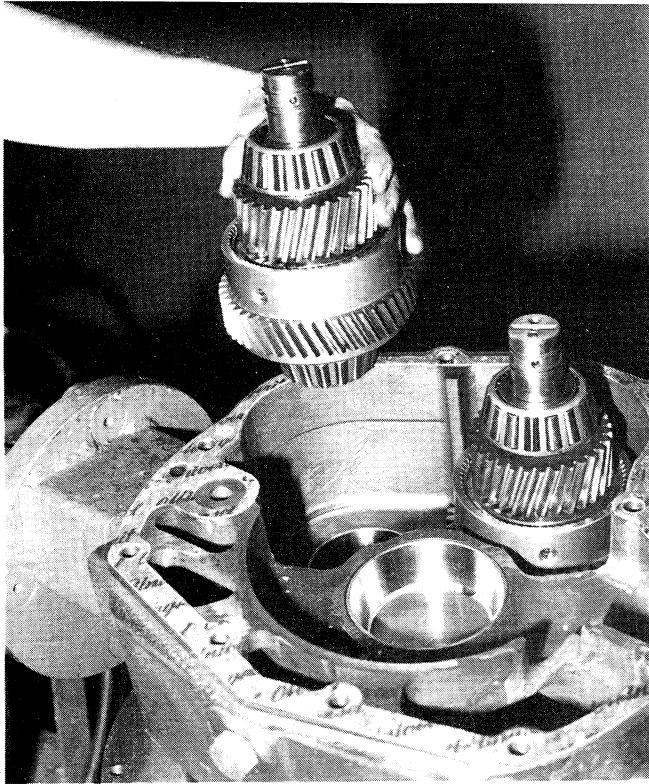

Figure 6-10. Removing or Installing the Reverse Clutch Assembly.
18. Remove the reverse clutch assembly. See Figure 6-10.